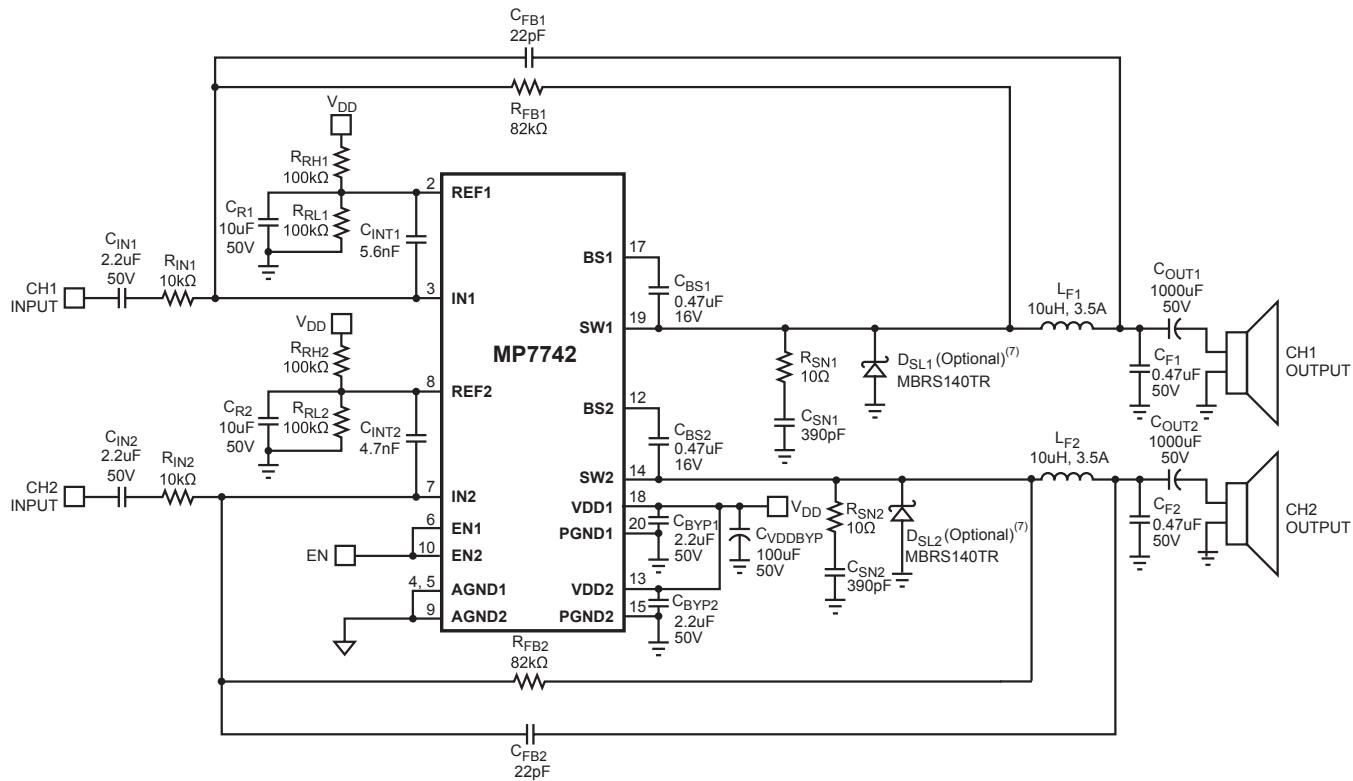

Figure 1—2 x 15W Stereo Typical Application Circuit
Circuit of Figure 1, $V_{DD}=24V$, $V_{EN}=5V$, $T_A = +25^\circ C$, unless otherwise noted.
Circuit of Figure 1, $V_{DD}=24V$, $V_{EN}=5V$, $T_A = +25^{\circ}\text{C}$, unless otherwise noted.
The MP7742 uses a minimum number of external components to complete a stereo Class D audio amplifier. The circuit of Figure 1 is optimized for a 24V power supply. This circuit should be suitable for most applications. However, if this circuit is not suitable, use the following sections to determine how to customize the amplifier for a particular application.
Table 1—Switching Frequency vs. V_{DD} , Timing Capacitor and Feedback Resistor (see Figure 1)
The Inductor-Capacitor (LC) filter converts the pulse train at SW to the output voltage that drives the speaker. Typical values for the LC filter are shown in Figure 1, 10 μ H inductor and 0.47 μ F capacitor.